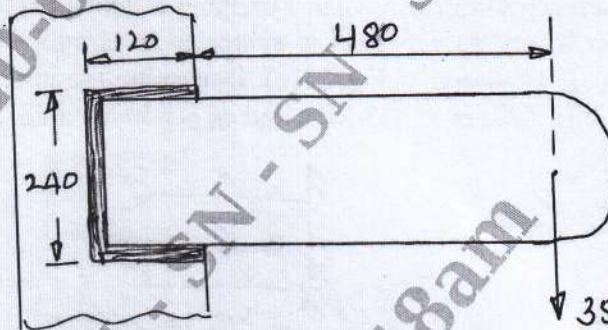

Fig.Q5(b)
- b. Determine the required fillet weld size for the bracket shown in Fig.Q5(b).